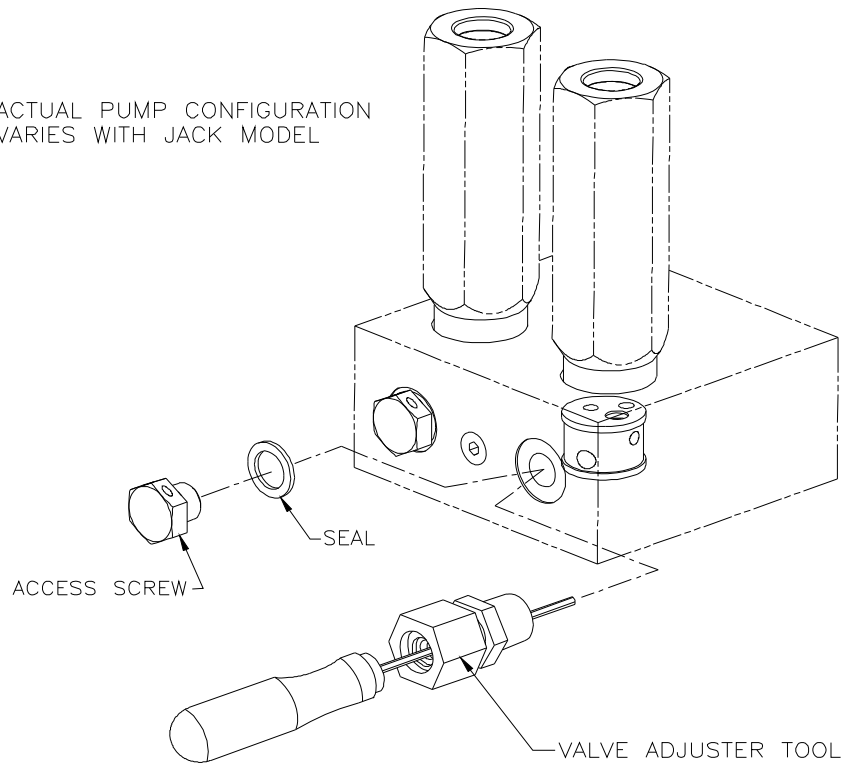

FIGURE 1
- 3) Remove access screw and seal. Install valve adjusting tool, Part No. 915-EB. (See Figure 1)